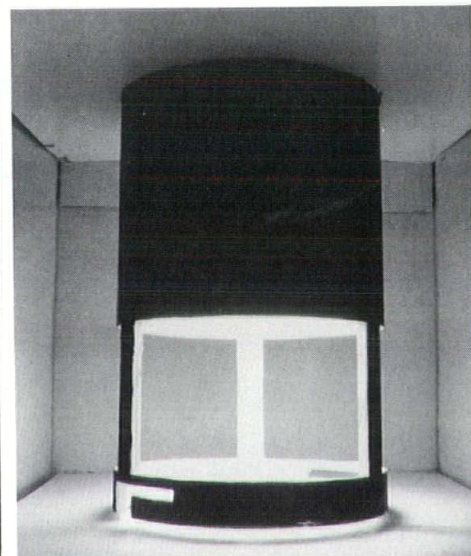
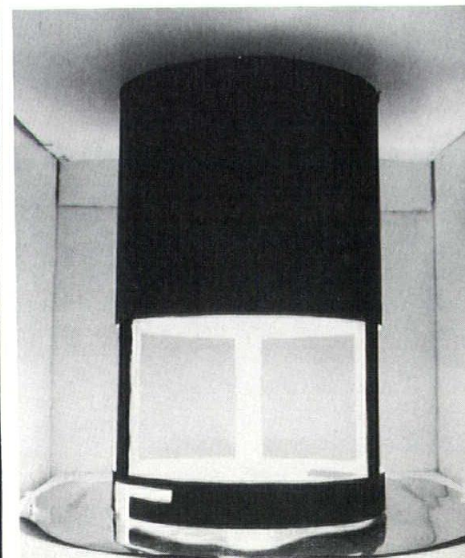

Figure 9
Figure 10
Architects can easily study natural lighting in model form for a specific design. *Figures 9 - 10* show just such an exercise directed toward the design of an interior light well (10). *Figure 10* demonstrates the improvement in light level obtained by placing a reflective surface at the base of the well.